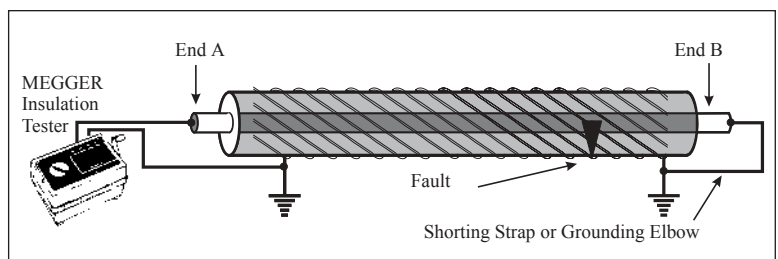

Figure 8: Loop test for continuity using a Megger® insulation tester
- After connecting a short between the phase and neutral at end B (Figure 8), do a loop test for continuity at end A using the ohms or continuity range on the instrument. If a reading of greater than 10 ohms is obtained when the cable has a concentric neutral, test the conductor and neutral independently by using a nearby good cable as a return path. This will help to determine whether it is the conductor or neutral that is the problem. A reading in the hundreds of ohms is a good indication of corroded neutral if working on a bare concentric-type cable. If no nearby good cable is available, use a long insulated conductor to complete the loop from end B. If a reading of infinity is measured either the phase conductor or the neutral is completely open between end A and end B which could be caused by a dig-in or a fault that has blown open the phase conductor.